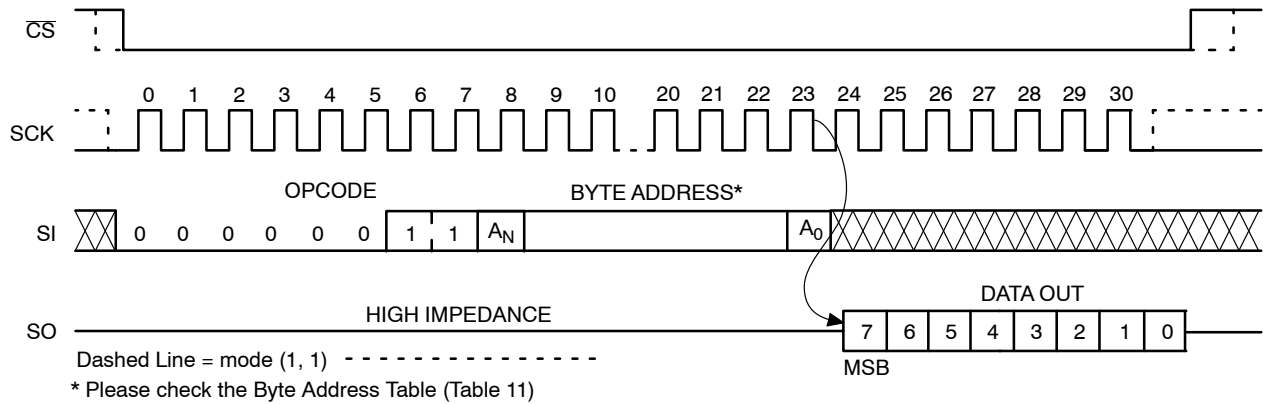

Figure 9. READ Timing
After receiving the last address bit, the CAT25512 will respond by shifting out data on the SO pin (as shown in Figure 9). Sequentially stored data can be read out by simply continuing to run the clock. The internal address pointer is automatically incremented to the next higher address as data is shifted out. After reaching the highest memory address, the address counter “rolls over” to the lowest memory address, and the read cycle can be continued indefinitely. The read operation is terminated by taking \overline{CS} high.
Reading the additional 128-byte Identification Page (IP) is achieved using the same Read command sequence as used for Read from main memory array (Figure 9). **The IPL bit from the Status Register must be set (IPL = 1) before attempting to read from the IP.** The [A6:A0] are the address significant bits that point to the data byte shifted out on the